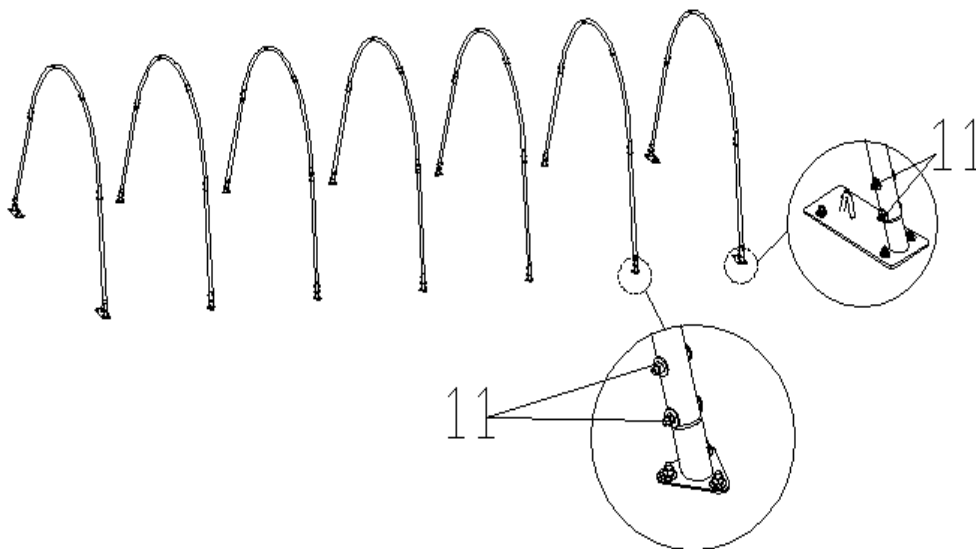

Figure 4
- Put up all 5 trusses, use hex bolt (#11) to secure the truss to the baseplates , but do not bolt it completely firm yet (refer to Figure 4)